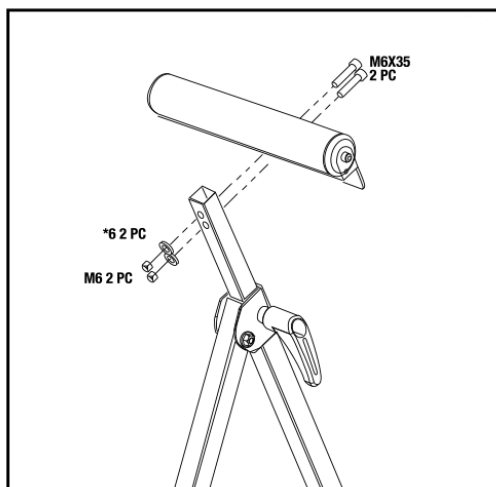

Fig. 3
- Attach roller head (Fig. 3).